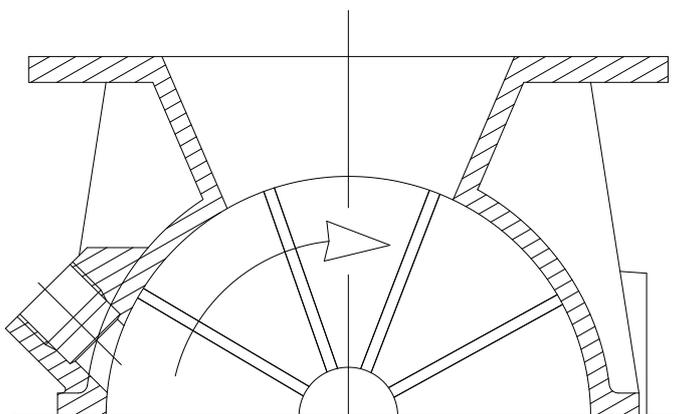

Fig. 2.1 Rotating direction of rotor.
- Check rotating direction (see fig. 2.1)